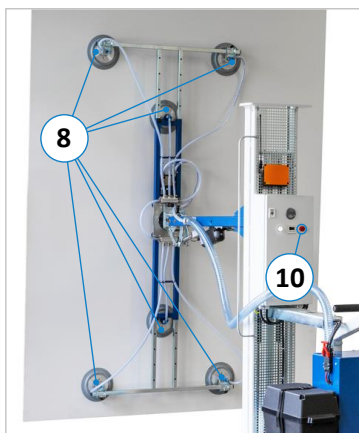

Figure 17: Vacuum pads
- The six vacuum pads (8) shown in ⇒ Figure 17 are used to fix the panel material to be clamped. The outer four vacuum pads (8) can be manually adjusted to the size of the panel to be clamped. The detailed procedure for adjustment can be found in the section ⇒ 11.12.